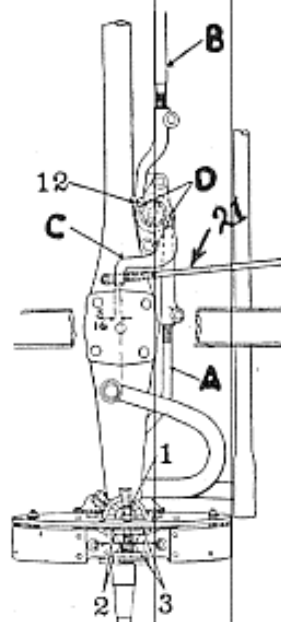

Fig. 3 (right) — Top view front equalizer and operating rods
5. Adjust clearance front brake lining by turning main adjusting screw (1) Fig. 3 counter clockwise until wheel is almost locked, then back off until wheel spins freely. Do the same to the other front brake. Try on testing machine or road.
9. Adjust clevis of the front pull rod (21, Fig. 3) so that pins can be inserted without moving pedal yoke, or front brake equalizer lever.
10. Front Brake Equalizer—The front end of front brake equalizer lever should stand $5/16$ in. forward of the center line of front axle. See Fig. 3. If it does not stand as shown, adjust clevises of both front brake cross operating rods to get proper position. Be sure that block remains centered after changing lengths of rods A and B.